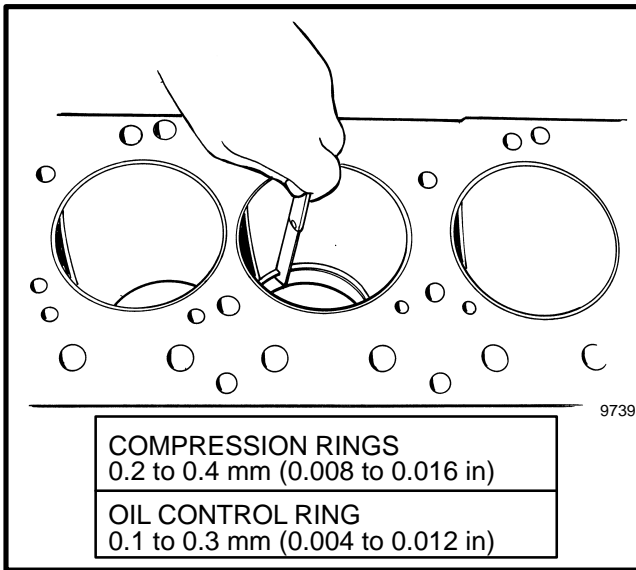

FIGURE 46. CHECK THE END CLEARANCE OF THE PISTON RING
1. Measure the end clearance of each piston ring as shown in FIGURE 46. Install the piston ring into the cylinder where it will be used. Use a thickness gauge to measure the amount of end clearance. See the specifications for the clearance of the piston rings shown in FIGURE 46. If the end clearance for any of the piston rings is greater than 1.5 mm (0.060 in), replace the piston ring.